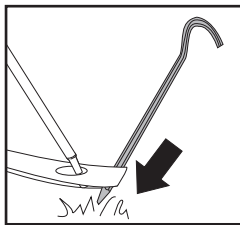

Figure 8A
8. Stake the tent down (Fig. 8A and 8B)!